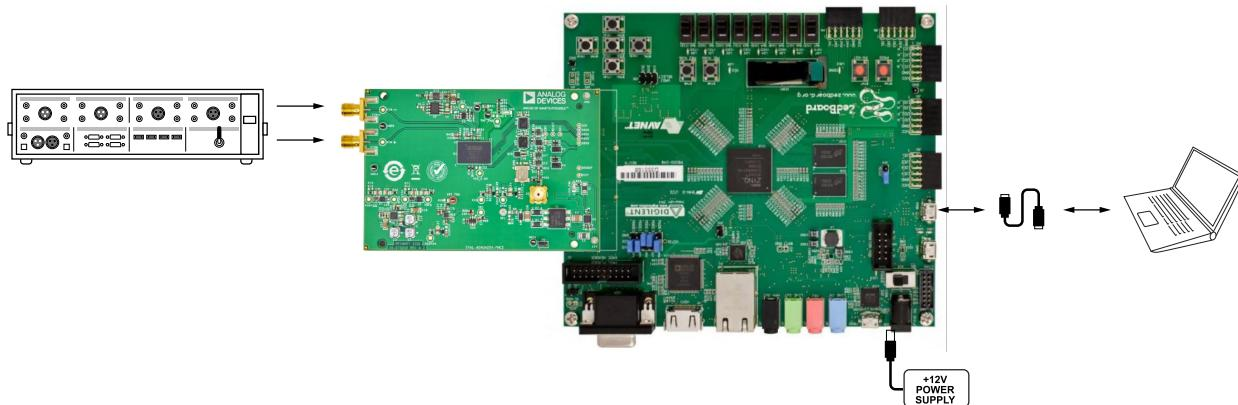

Figure 8. Evaluation Board Setup
Figure 8 shows a diagram of the evaluation setup for the EVAL-ADAQ4224-FMCZ board.
2. Connect the EVAL-ADAQ4224-FMCZ board and the Zedboard to the PC, as shown in Figure 8 and in the Evaluation Board Setup Procedure section.